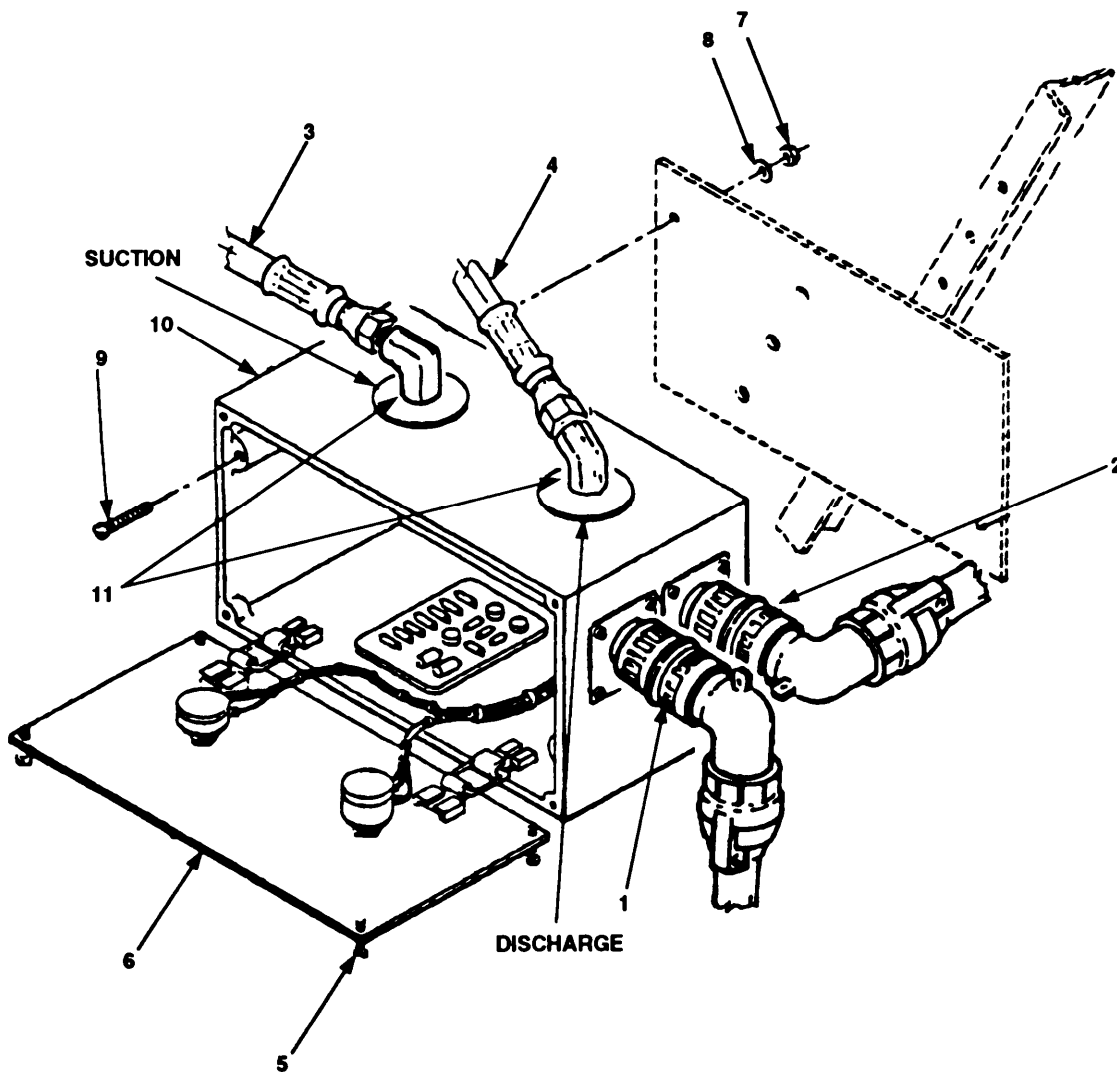

Figure 4-53. Pressure Controller Maintenance.
- a. Disconnect cable connectors (figure 4-53, 1 and 2).
- b. Disconnect suction hose (3) and discharge hose (4).